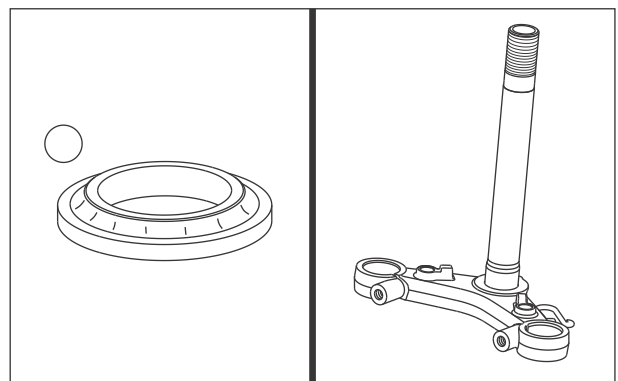

Fig. 6.74
- Races and cones for wear, pitting, rusting and indentation. (Fig. 6.74)
- Worn or damaged steel balls / ball cage and rusting. (Fig. 6.74)